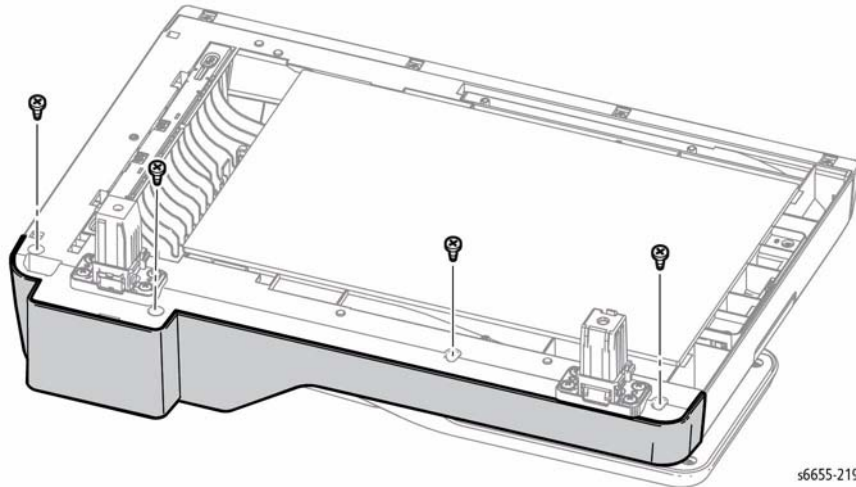

Figure 1 Remove the DADF Rear Cover Screws
2. Turn the DADF over, and refer to Figure 1 to locate and remove four screws (silver, tapping, 8 mm) from the bottom of the DADF rear cover.